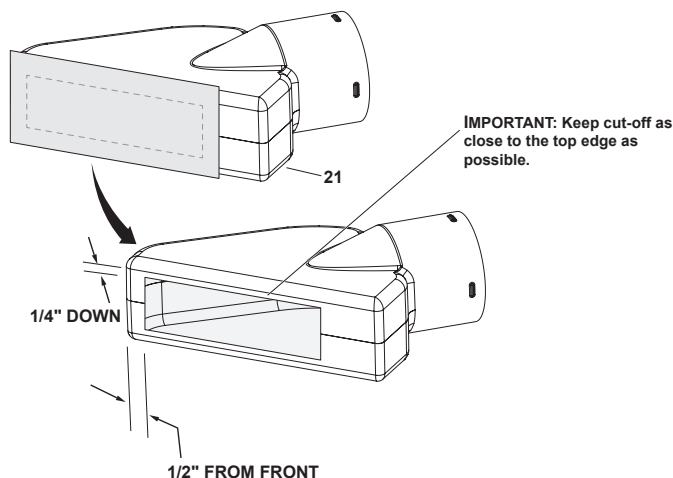

FIGURE 29
- Tape the template to the face of the deck adapter (21), about 1/2" from front and 1/4" down from top for deeper decks. For shallow decks, position template low enough that adapter will not extend below bottom of deck. Mark outline of template on face of adapter using white crayon, nail or scribe.
- Drill a starting hole inside the outline, then use a saber saw or key hole saw to cut out the opening. See figure 29